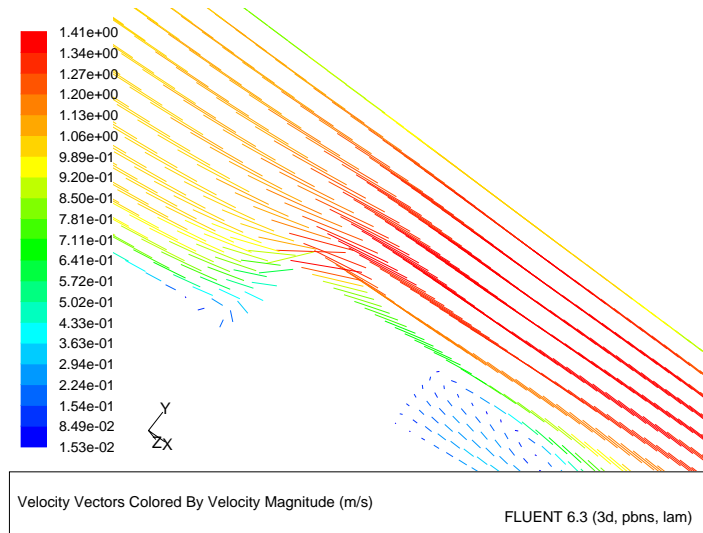

Figure 23.9: Velocity Vectors in the Module Symmetry Plane
1. Display velocity vectors on the symmetry plane through the module centerline (Figure 23.9).
- (d) Rotate and zoom the display to observe the vortex near the stagnation point and in the wake of the module (Figure 23.9).
Note: *The vectors in Figure 23.9 are shown without arrowheads. You can modify the arrow style in the Vectors panel by selecting a different option from the Style drop-down list.*